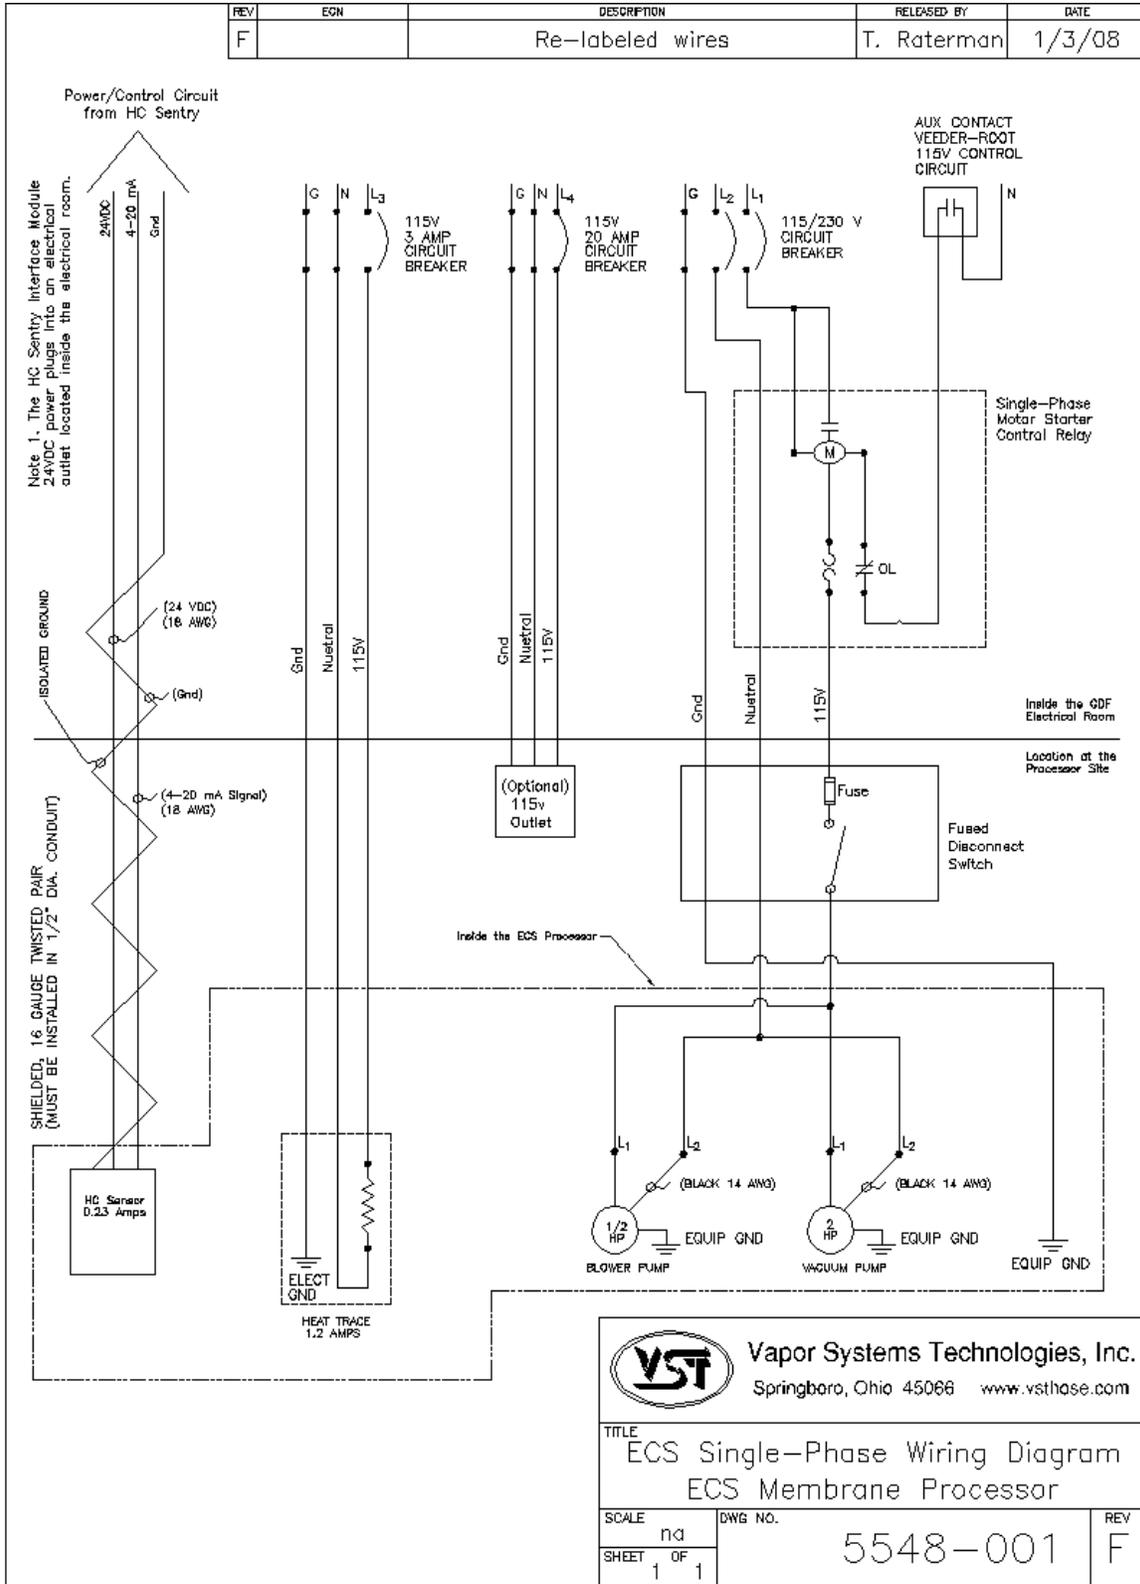

Figure 19: Processor Single-Phase Wiring Diagram
- ▶ **See Figure 19: Section 14 / Page 61.**